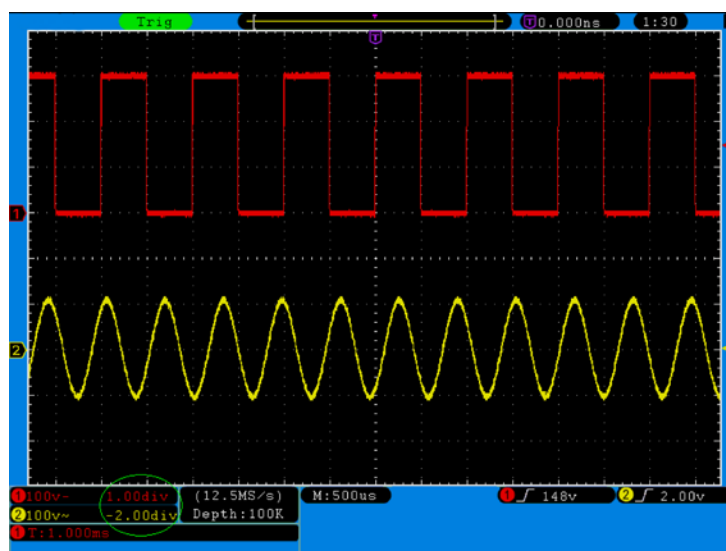

Fig. 25 Information about Vertical Position
- When the vertical position of the channel waveform is adjusted, the screen shows the information concerning the vertical position at the lower left corner (see **Fig. 25**).